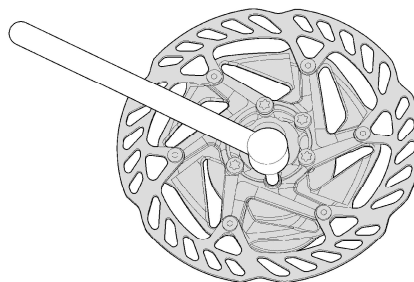

Fig. 2
5. Install all 6 bolts and snug evenly. (Fig 2)